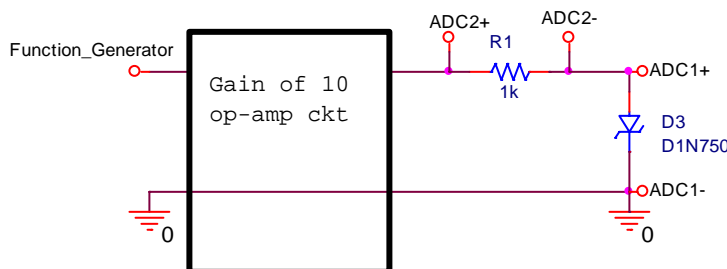

Figure D-4
- Assemble the circuit shown in figure D-4 on your protoboard. The Zener diode looks like the regular diode, except it should have "75" written on it. This is the same circuit as figure A-7 with the 1n4148 replaced with the 1n715